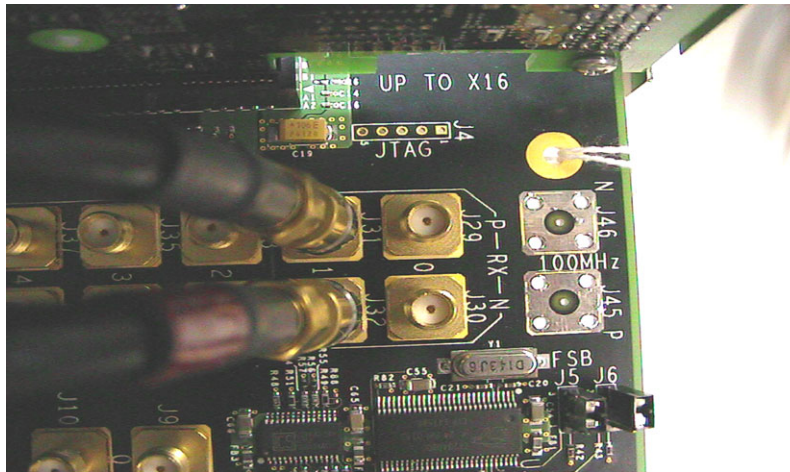

Figure 16 Compliance Base Board (CBB) SMA Probing Option
- a Digital Storage Oscilloscope channel 1 to the TX LANE P under test (where Lane 1 is under test in this example shown in Figure 16 above).
- b Digital Storage Oscilloscope channel 3 to the TX LANE N under test (where Lane 1 is under test in this example shown in Figure 16 above).